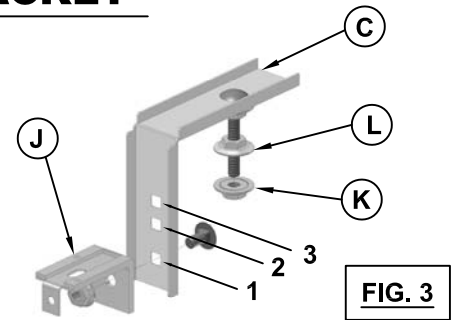

FIG. 3
DETERMINE APPROPRIATE POSITION OF YOKE SUPPORT WINGS (J) AND TIGHTEN TO YOKE WITH 1/4-20 CARRIAGE BOLTS AND NUTS PROVIDED. (REF. FIG. 3)